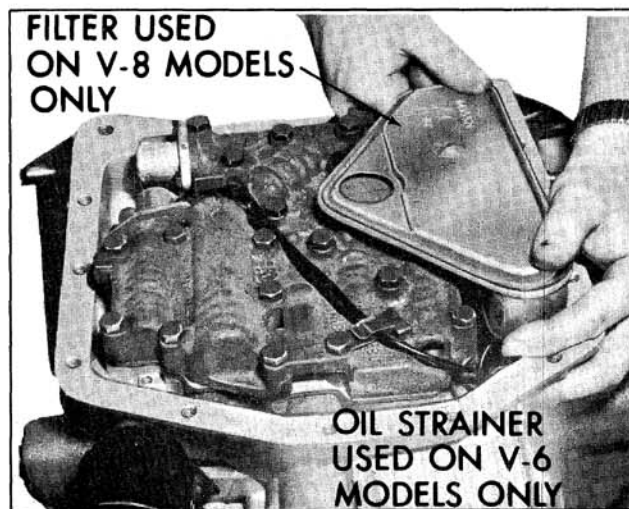

Fig. 6-539 Installing Oil Filter
12. Install filter into transmission case. (Fig. 6-539)